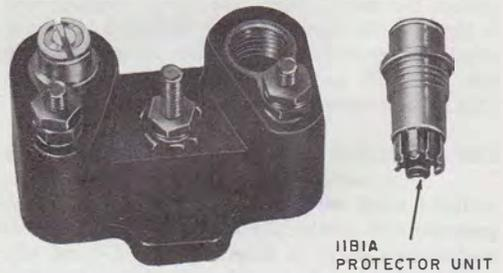

Fig. 5—123E1A Protector
3.05 The **123E1A protector** (Fig. 5) provides protection for one pair of wires and is intended for use at stations served by cable or multiple wire having a high level of lightning activity. It consists of a nonconductive base containing three binding posts and two 11B1A gas tube protector units (Fig. 6). The 123E1A protector